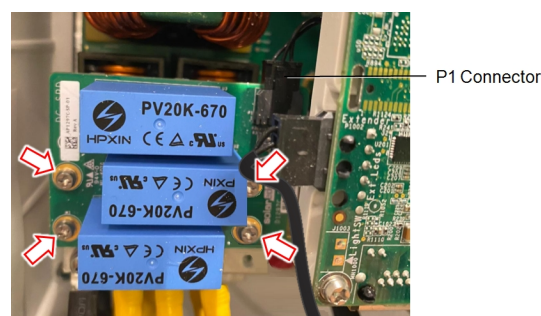

Figure 5: Securing the DC SPD
8. Connect the plug of the DC SPD Cable to the P1 connector on the DC SPD (See *Figure 5*).